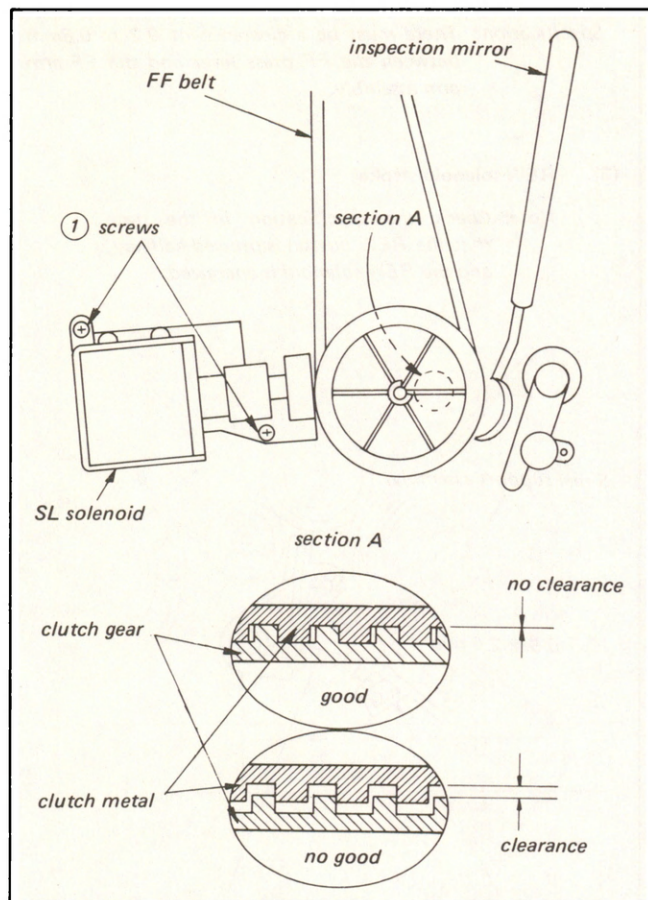
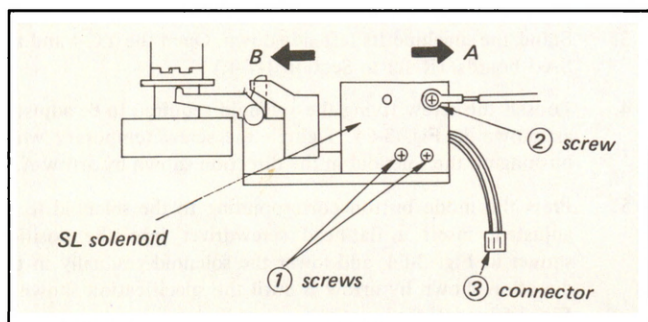

Fig. 3-60.
Fig. 3-61.
4. Remove the FF belt. (See Fig. 3-60.)
6. Check the gearing of the clutch gear into the clutch metal at section A with using the inspection mirror (Jig. Ref. No. J-9) as shown in Fig. 3-60.
7. Check that there is no clearance as shown in Fig. 3-60 when the clutch gear gears into the clutch metal correctly at section A. If there is a clearance or the gear gears into the metal correctly but the solenoid core is not pulled fully, perform Step 8 and its following steps.
8. Loosen two screws (1) shown in Fig. 3-61 and move the SL solenoid in the direction shown by arrow A.
9. Move the SL solenoid in the arrow B direction so that the specification shown in Fig. 3-60 is satisfied, and fix the two screws (1). (See Fig. 3-61.)
1. Remove two screws (1) shown in Fig. 3-60.
2. Remove screw (2) and connector (3) shown in Fig. 3-61. Then the solenoid can be removed.